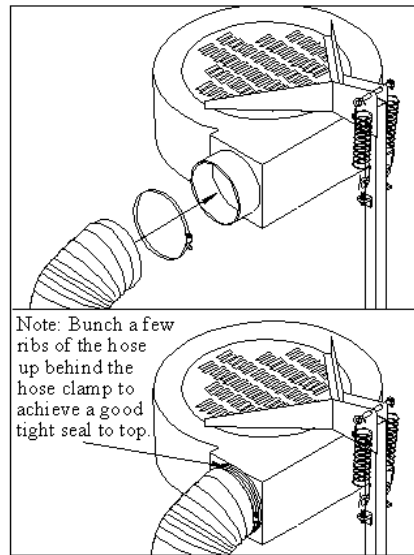

Fig. 13
13. Slide intake nozzle (24) thru intake opening of molded top with lip inside. Slip 6 " x 28 " hose (26) over intake nozzle. Seat hose against molded top and secure with 6 " band clamp (25). **Fig. 13**